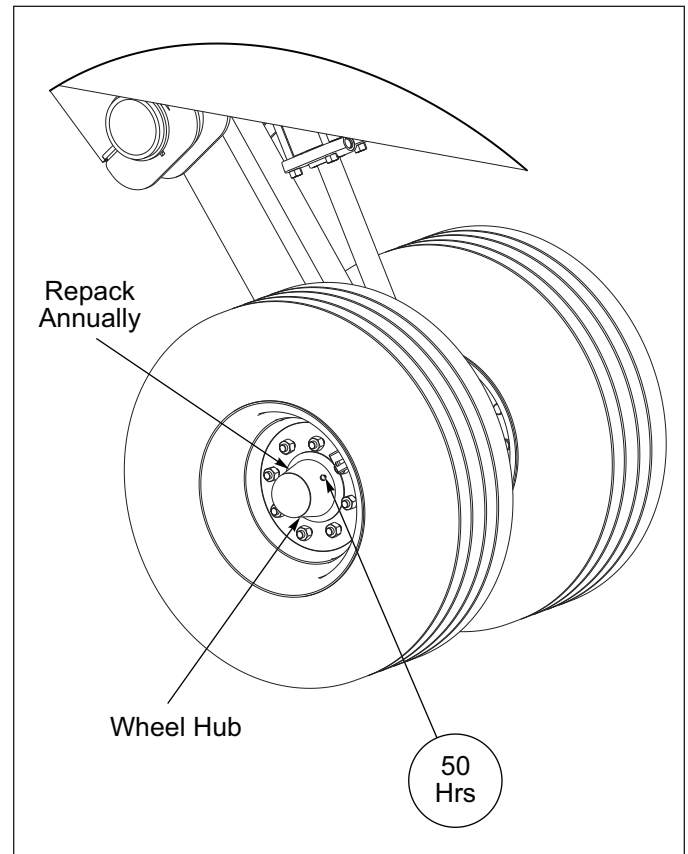

Figure 5-2: Lubrication Points and Intervals
- Grease Wheel Hubs every 50 Hours. **See Figure 5-2.**